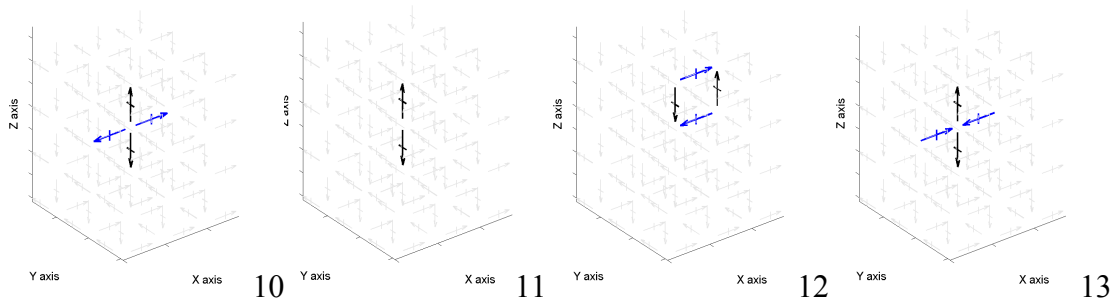

FIG. 3. Energy source pattern types: 10 - Explosion, 11 - Vertical dipole, 12 - Double-couple 13 - Squeeze-bulge
- **energySrc** The variable is used to specify a number of well known 2D energy source geometries, and a few rather arbitrary ones. The codes used are 10, 11, 12, 13, 21, 22, 23 & 31, and are displayed in Figures 3 and 4.